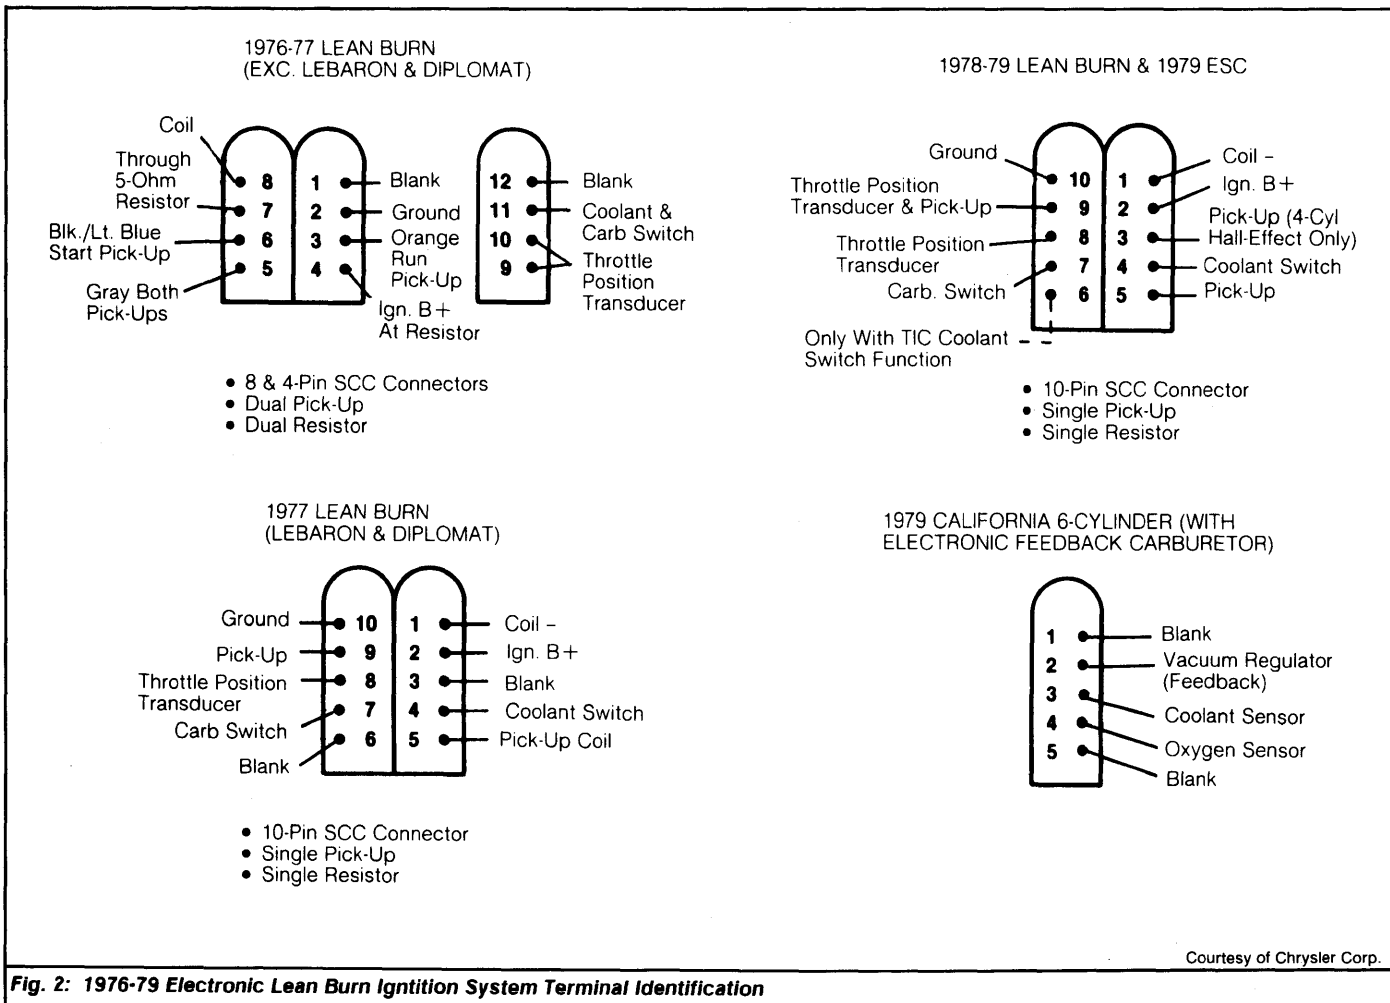

Fig. 2: 1976-79 Electronic Lean Burn Ignition System Terminal Identification
3) Turn ignition on and measure voltage at carburetor switch terminal. If voltage is greater than 5 volts, go to step 7). If voltage is less than 5 volts, turn ignition off and detach 8-pin connector from Spark Control Computer. See Fig. 2.
- 5) If voltage in step 3) is less than 5 volts, turn ignition off and detach 10-pin connector from bottom of Spark Control Computer. See Fig. 2.